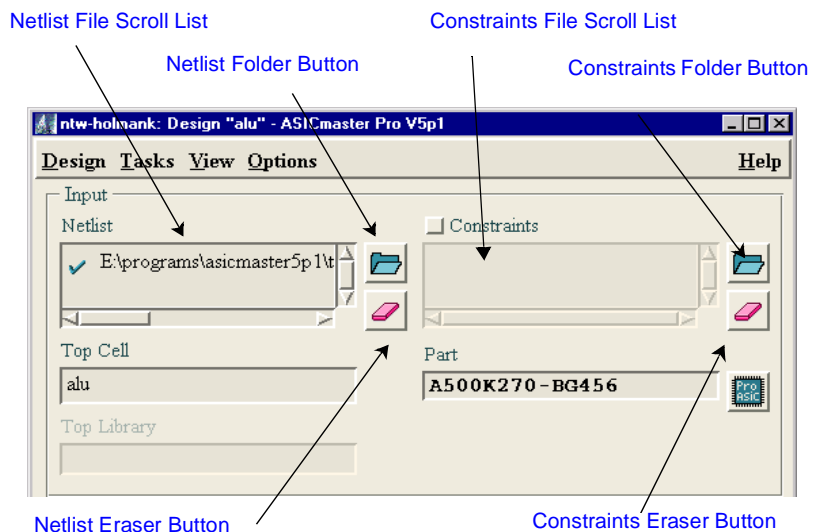

Figure 2-8. Design Executive Window Input Area
To begin a design, one or more netlist files must be selected. Once selected, the netlist(s) are displayed in the Input area of the Design Executive window, as shown in Figure 2-8.
Select the netlist in the Input area of the Design Executive window and click the Eraser button next to the Netlist file scroll list, as shown in Figure 2-8 on page 22.
1. **Click the Constraints Folder button in the Design Executive window (see Figure 2-8 on page 22).** The Constraint File Selection browser is displayed. If the file format has been set, the filenames that appear are limited to those in the format specified.